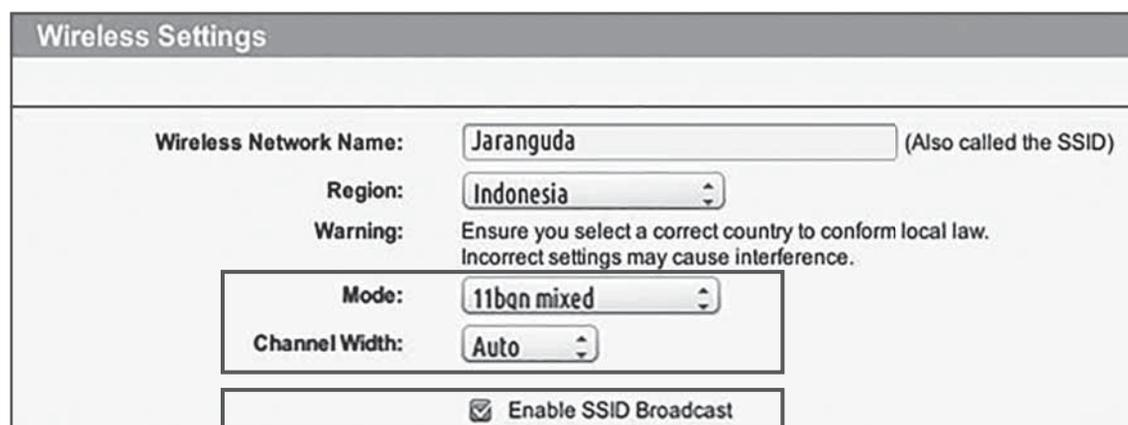

Fig. 1
2. Make sure your router 802.11 mode of wireless setting is **b/g/n mixed**. (See Fig. 1)
3. Make sure your router channel/ band width of wireless setting is **Auto or 20M or 20M mixed 40M**. (See Fig. 1)
4. Make sure your router **Enable the SSID Broadcast function** when you connect the machine with the APP. And you can close it after you connect successfully. (See Fig. 1)